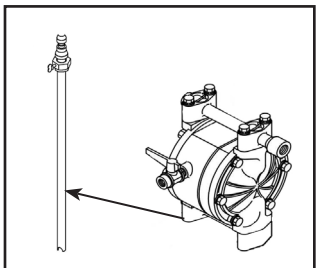

Figure 18
- Remove the 4 retainer bolts from the inlet manifold and remove the inlet manifold (See Figure 18).